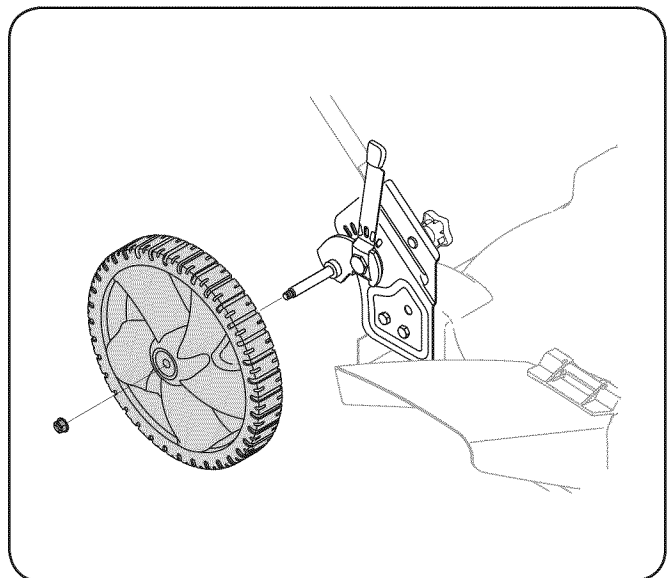

Figure 3-6
- If not already on the unit, install rear wheels as follows in Fig. 3-6: